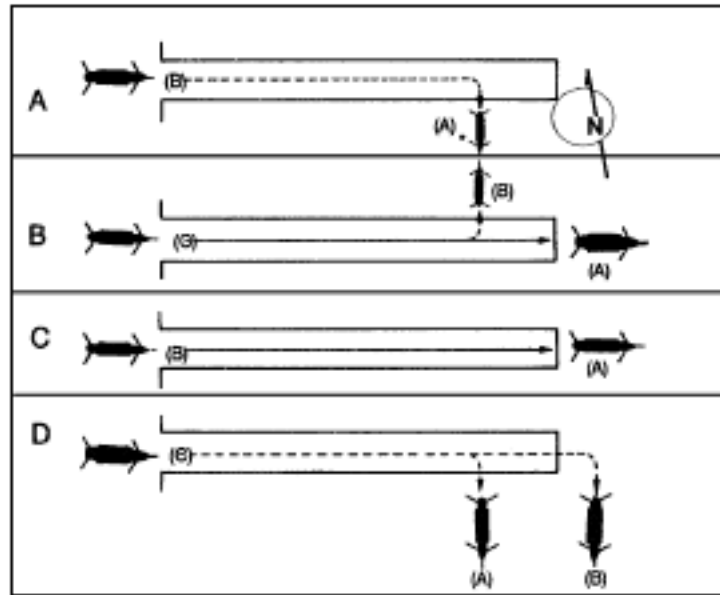

Figure 3-4. Minimum separation requirements.
During normal operations, pathfinders ensure pilots follow minimum separation criteria. Combat situations may dictate less separation (Figure 3-4).
- a. **Arriving Aircraft.** The preceding aircraft (1) taxis off the landing strip before the arriving aircraft (2) crosses the approach end on its final glide (A, Figure 3-4).
- b. **Departing Aircraft.** The preceding aircraft either crosses (1) the opposite end of the runway or turns away (2) from the projected path of the departing (3) aircraft before the latter begins its takeoff run (B, Figure 3-4).
- c. **Departing and Arriving Aircraft.** The departing aircraft (1) crosses the opposite end of the runway before the arriving aircraft (2) crosses the approach end on its final glide path (C, Figure 3-4).
- d. **Departing, Preceding, and Arriving Aircraft.** The preceding aircraft (1) and the arriving aircraft (2) both taxi off the runway before the departing aircraft (3) begins the takeoff run (D, Figure 3-4).